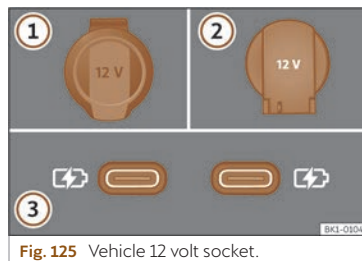

Fig. 125 Vehicle 12 volt socket.
>>> **Fig. 125.**
tions **exclusively for charging or as a socket** >>> **Fig. 125 ③**.